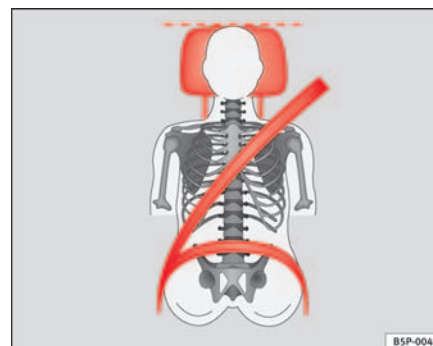

Fig. 13 Correct belt web and head rest positions, viewed from front
- The shoulder part of the seat belt must lie on the centre of the shoulder, never across the neck. The seat belt must lie flat and snugly on the torso ⇒ page 25, fig. 13.